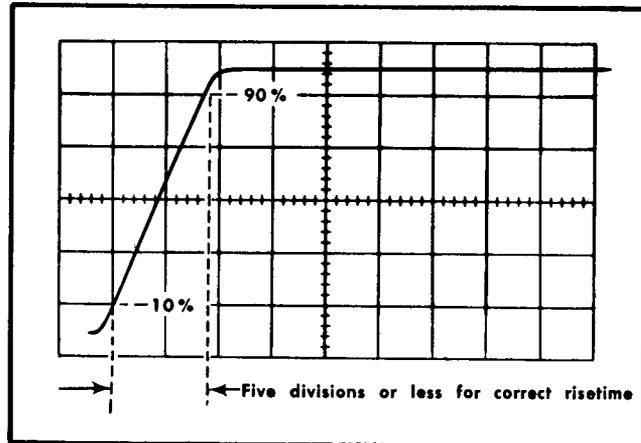

Fig. 5-30. Typical CRT display when checking calibrator risetime.
d. CHECK-CRT display for five divisions or less between the 10% and 90% points on the leading edge of the calibrator waveform (one microsecond or less risetime; see Fig. 5-30).